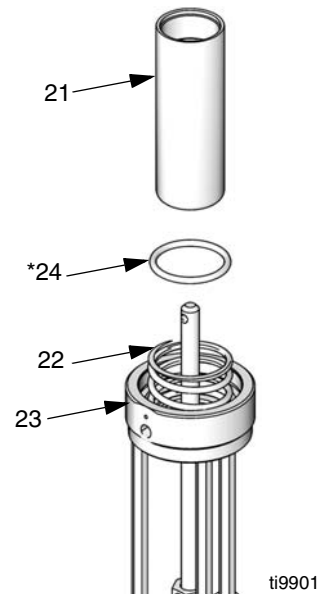

FIG. 16
- Slide air piston (21) out the top of the air motor base (23). Remove o-ring (24*) from air motor base. Inspect all parts, including the spring (22) in the air motor base, for damage. See FIG. 16.